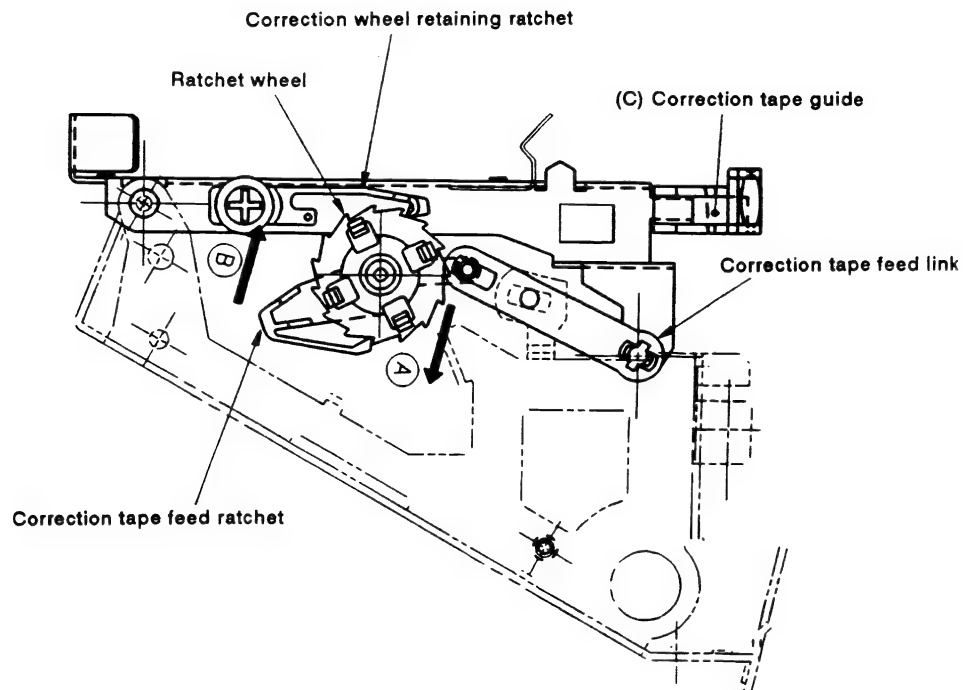

Fig. 3.2
- (3) The correction cam follower unit, which is mounted on the ribbon cassette support, has its shaft fitted in the groove of the correction cam. When the clutch collar rotates half a turn, the clutch armature stops the rotation. At this point, the correction cam follower unit fixed to the correction cam comes up to the apex of the cam and the ribbon cassette support is raised to its fully raised position, which brings the correction tape up to its printing position.
- (4) The hammer strikes the selected spoke four times against the correction tape to erase the printed character, while the ribbon cassette support remains at its raised position.
- (5) After the correction hammer has struck four times, current flows to the correction solenoid once more which causes the clutch armature, correction cam, and ribbon cassette support to return to their home positions.
NOTE: To check the vertical position of the correction tape, first print underlines " _ " with a correctable film ribbon. Then, erase underlines with a lift-off correction tape. The removed underlines should be 0.5 to 1.5 mm above the lower edge of the lift-off correction tape. If not, adjust the ribbon position by bending the correction tape guide at the front of the ribbon cassette support up or down (part (C) in Fig. 3.2)
- (6) The correction tape is fed by the vertical movement of the ribbon cassette support.
The shaft of the correction tape feed link is supported by the carrier frame, therefore, raising the ribbon cassette support moves the correction tape feed link in the direction indicated by arrow (A) shown in Fig. 3.2. The correction tape feed ratchet, connected to the correction tape feed link, is caused to move in the direction indicated by arrow (B) and catches the next tooth of the ratchet wheel. The correction wheel retaining ratchet prevents the ratchet wheel from rotating backward. When the ribbon cassette support is lowered, the correction tape feed ratchet rotates the ratchet wheel to wind up the correction tape.